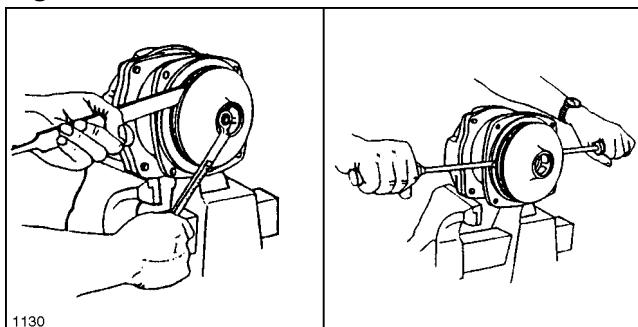

Figure 46
2. To remove the impeller nut, insert a large screwdriver or file (at least 10" long) into impeller vanes to prevent impeller from turning when loosening nut. Use a 5/8" socket wrench to remove the impeller nut by turning it counterclockwise. See Fig.46.
3. Once nut is removed, place a screwdriver on each side (as in Fig. 46) behind the impeller and pry away from the mounting flange. Remove woodruff key from the shaft. Remove O-ring from the mounting flange.